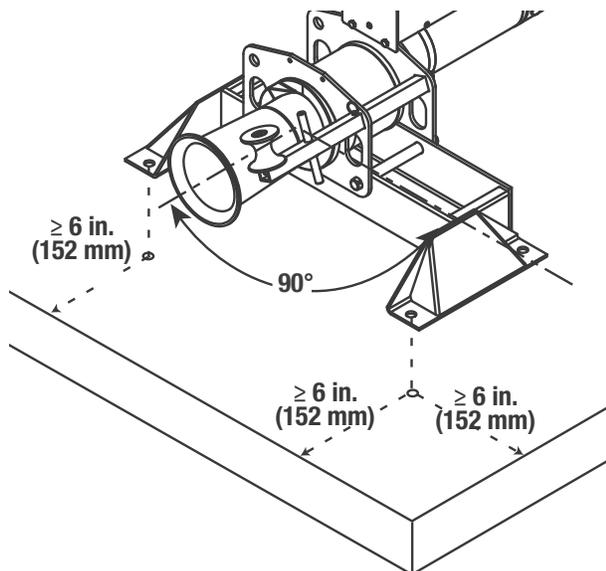

Figure 24: Drill Holes 6 in (152 mm) From Edge
3. In the identified location, use a 5/8 in. Carbide-tipped masonry bit (ANSI standard B94.12-77) to drill four holes at least 6 in (152.4 mm) from the edge of the concrete and 6.25 in (158.8 mm) deep. (Fig. 24)